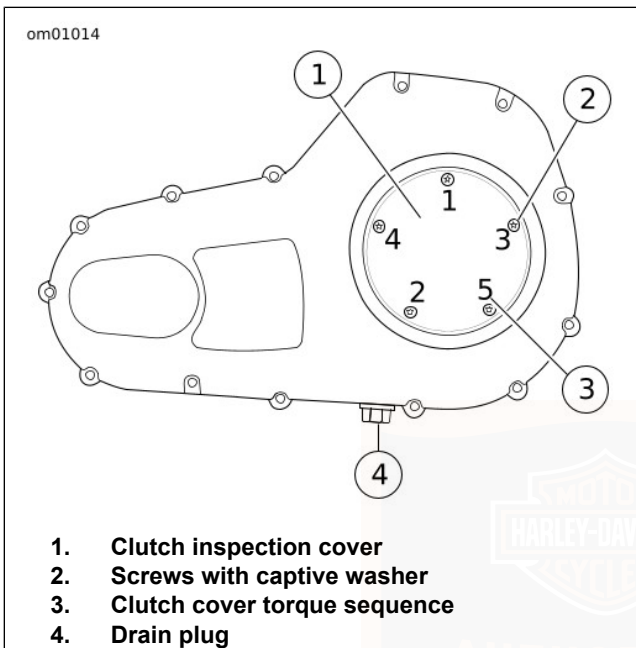

Figure 53. Primary Chaincase Cover
3. See Figure 53. Remove clutch inspection cover from primary chaincase cover.
2. See Figure 53. Remove clutch inspection cover from primary chaincase cover.
3. Remove drain plug (2) and drain lubricant into suitable container.
9. See Figure 53. Install clutch inspection cover. Tighten screws in the sequence shown to 9.5–12.2 N·m (84–108 **in-lbs**).